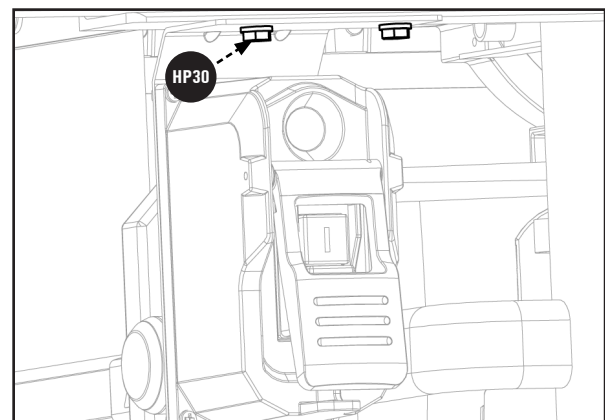

Figure 15
2. Align the two holes in the switch box bracket with the holes underneath the front rail, shown in Figure 15, located on the left side of the saw. Secure the switch box **F3** to the front rail using two 1/4-20 x 1/2 inch Hex Screw w/ Split Lock Washer **HP19**.